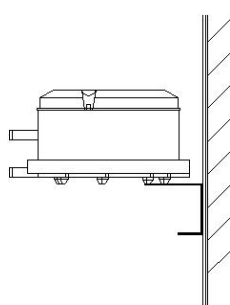

Fig. 2
- Can be installed horizontally when the environment does not have any condensing. In this way, Fig. 2 is recommended. The cover is upward and the switch value should plus about 10pa.